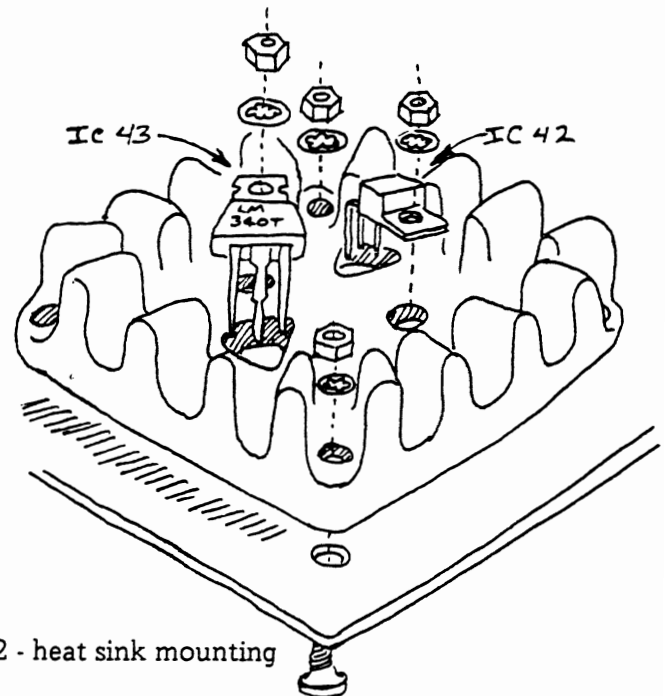

fig. 2 - heat sink mounting
9. Regulator Installation: Refer to Fig. 2. Position I.C.'s 43 and 42 (LM340T-5.0) over their mounting locations on the heat sink and observe how the leads must be bent to engage their holes on the card. The center lead must be bent at a point approximately 0.2 inches further away from the body of the regulator. Use of silicone heatsink compound is recommended between the regulator I.C.'s and the heatsink.